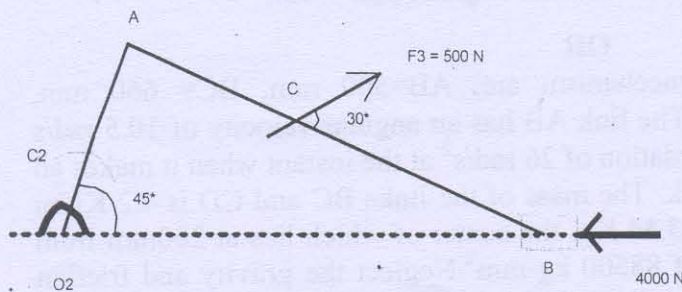

Fig.1
- (b) Determine static equilibrium torque C_2 on link O_2A (Fig 1.) by Analytical method where $O_2A = 15\text{cm}$ $AB = 45\text{cm}$ and $AC = 12\text{cm}$ angle $AO_2B = 45^\circ$. 08